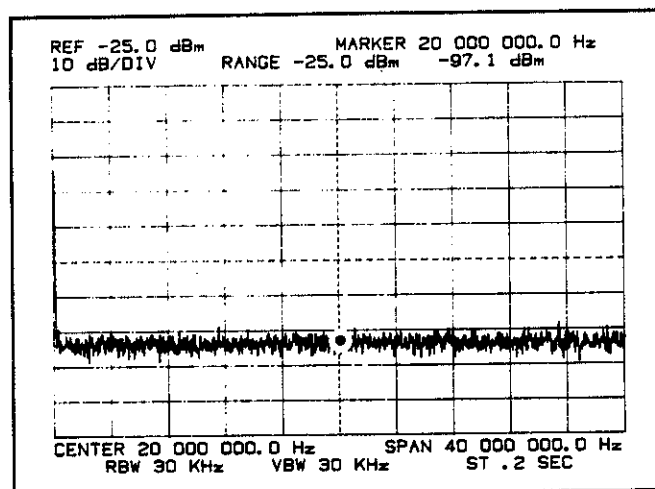

Figure 2-4. Turn-On Display.
i. The CRT display should now appear as shown in Figure 2-4.